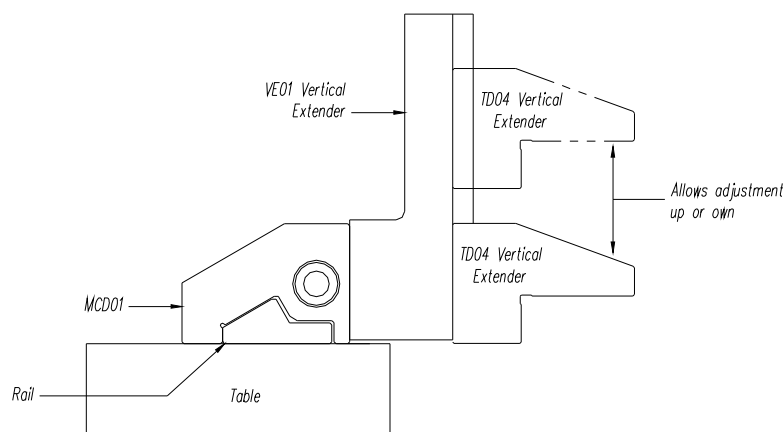

Figure 1
STEP 1. The VE01 vertical extender is a base component that attaches to the MCD01 main clamping device and allows the work holder to be held at a higher (or lower) vertical height as shown in Fig. 1. The VE01 Vertical Extender, is designed to be used with a self-clamping truing device or self-clamping work holder.